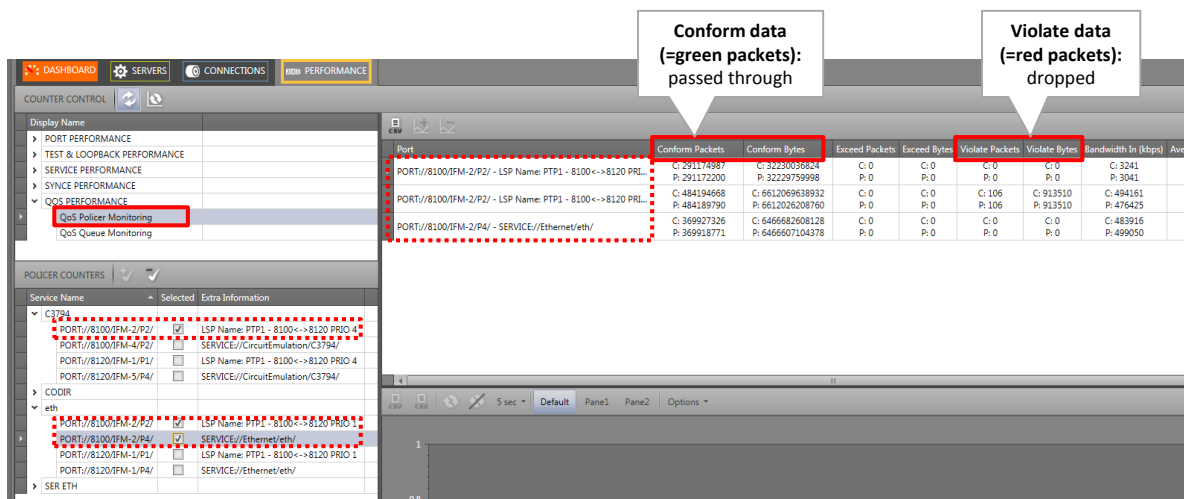

Figure 195 QoS Policer Monitoring
- ▶ **QoS Policer Monitoring** (Figure 195): The policer is a functionality on the CSM that measures the bandwidth profile (=bandwidth and burst size) of the incoming traffic on a LAN or WAN port. If these measurements are conform the configured bandwidth profile of that service, the packets are allowed and passed through (=conform packets, green packets). If not, the packets are dropped or violated (=violated packets, red packets). It also measures the 'Average Frame Size In' (not visible in the screenshot). This value can be used as input in the Average Package size settings in the service wizard QoS window to fine-tune the bandwidth efficiency, see §3.7.